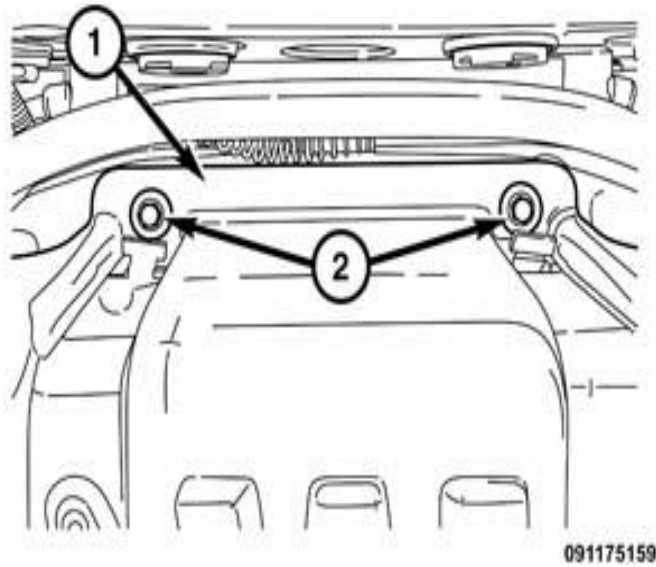

Fig. 9 Front Tank Mounting Bolts
16. Remove the front bolts (2) and lower the DEF tank (1) (Fig. 9).